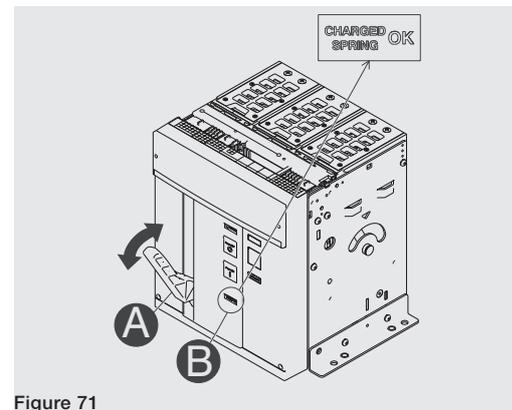

Figure 71
2. Charging the springs - Pull the lever [A] downwards several times until the springs charged signalling device [B] is "yellow - CHARGED SPRING" as indicated in Figure 71.